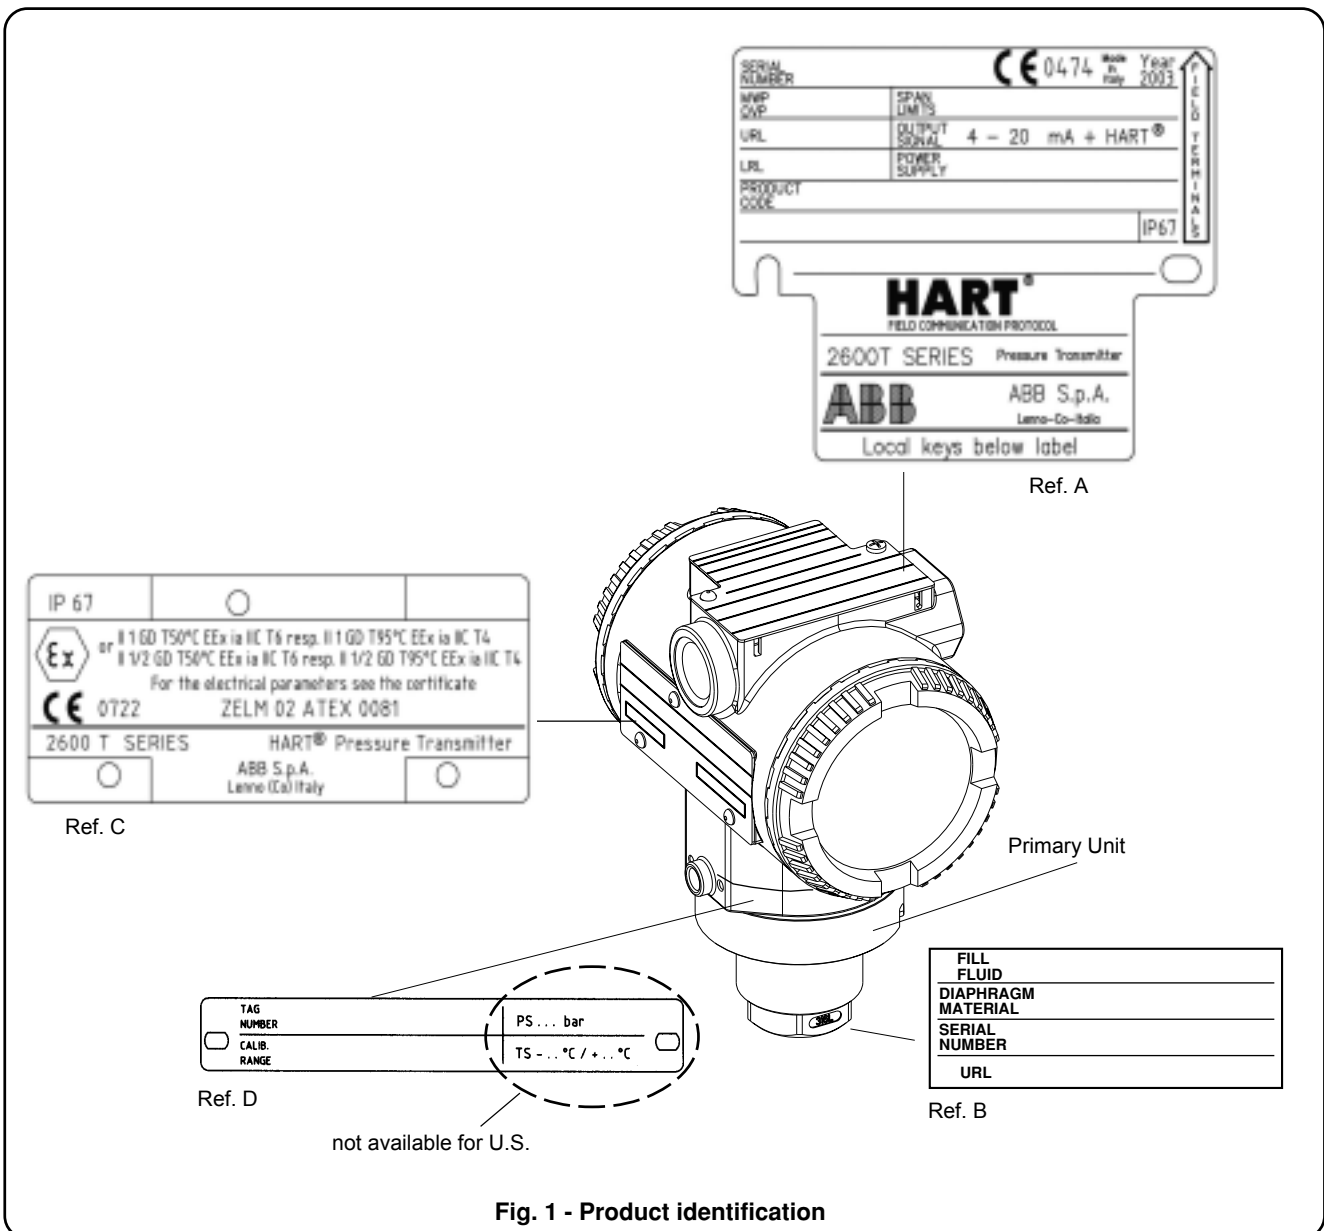

Fig. 1 - Product identification
Please review the approvals and marking of the transmitter shown on the label attached to the transmitter (see figure 1 - Ref. C), note that this is a sample, read the values on the real label; if this label is not present, the instrument is not suitable for installation in Hazardous Areas. It is necessary to check
The maximum allowable pressure (PS) and maximum/minimum allowable temperature (TS) of the pressure transmitter, for the European market are indicated on the tag plate (ref. D of Figure 1), in the U.S. please refer to the instrument data sheets available at: <http://138.221.224.36> searching for "264 and sheet" or from local ABB representatives.